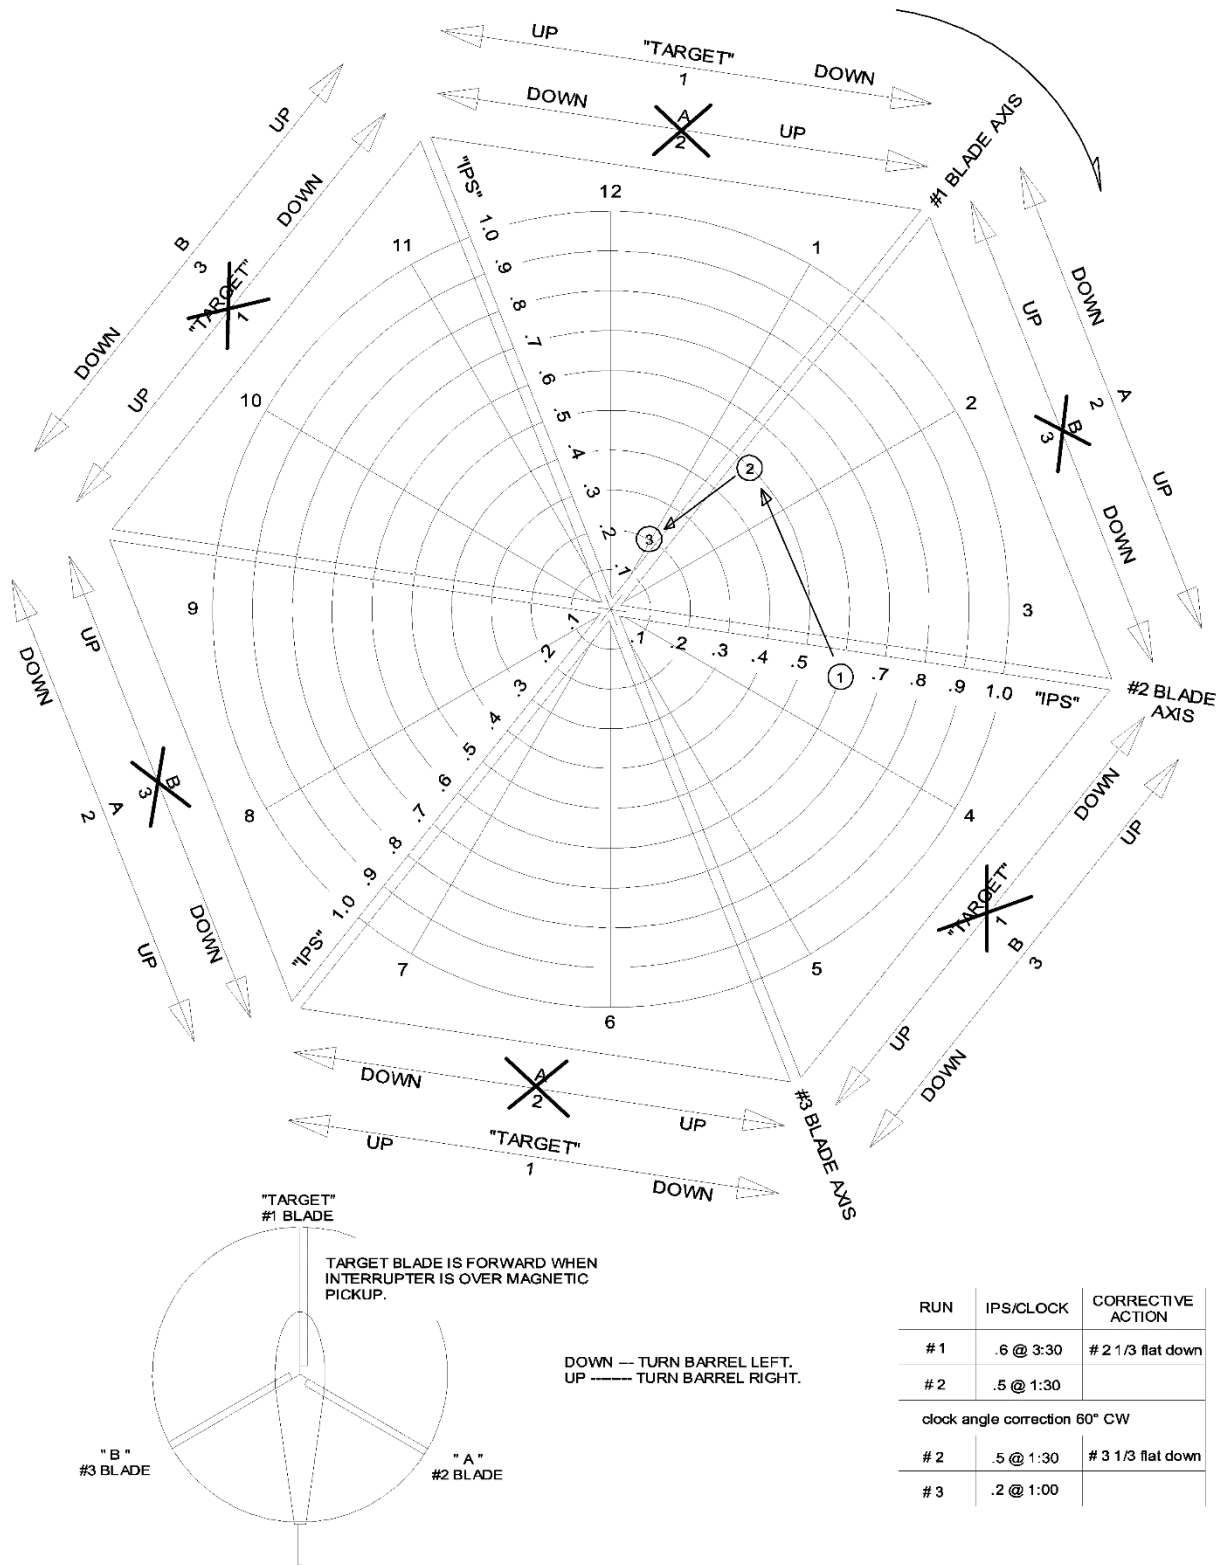

Figure 12-6.3. Main Rotor Clock Angle Correction Example
- (4) According to the corrected chart, the #3 blade should be adjusted 1/3 flat down. A reading of .2 ips at a clock angle of 1:00 for the third hover run is plotted on the corrected chart (Figure 12-6.3). The move corresponds well with the corrected chart and the tracking procedure is complete.